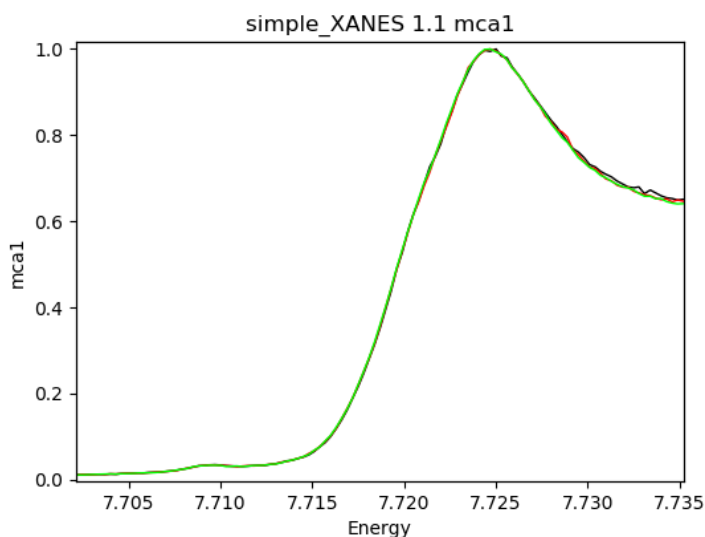

Figure 1-13: The normalized edges of the three spectra are shown here.
- 16) Before we can compare the spectra to assess damage, there's one last thing we need to do: Normalize the intensities to account for any differences in intensity between spots. If we don't, differences in intensity can easily be misinterpreted as differences in energy, which is not a mistake we want to make. PyMCA offers a number of ways to normalize spectra, each with its own strengths and weaknesses. For the spectra here, the best choice is to go to panel D and select 1D Plugins > Normalization > $y/\max(y)$, which will divide each of the spectra by its largest value. With that done, zoom in to the edge so you can focus on the region from 7705 – 7735 eV (Figure 1-13).